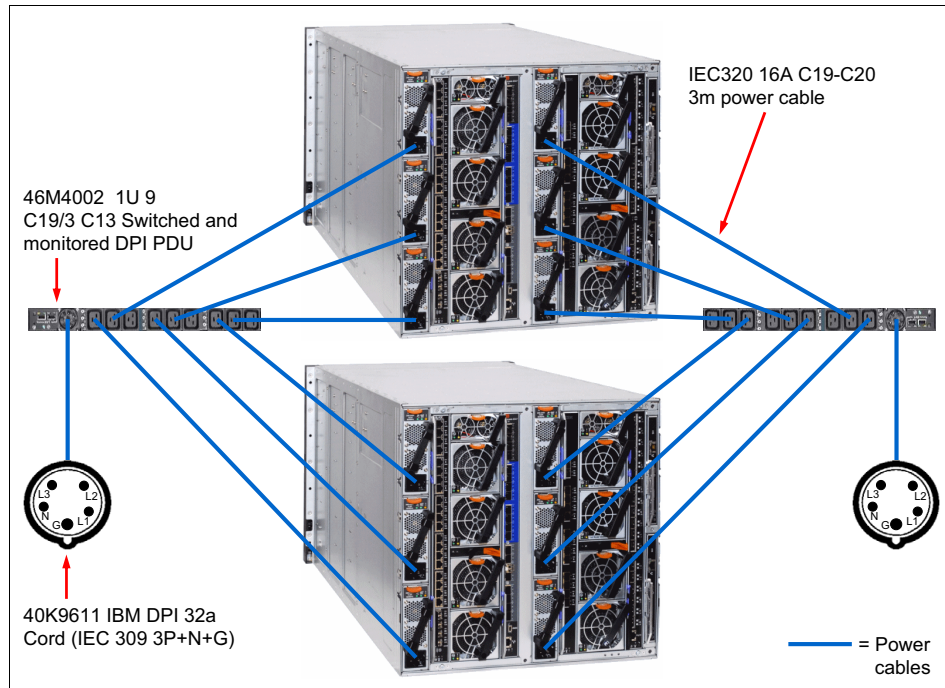

Figure 5-6 Example power cabling 32 A at 380 - 415 V three-phase: international
As shown in Figure 5-6, one three-phase 32 A wye PDU (WW) can provide power feeds for two chassis. In this case, an appropriate 3-phase power cable is selected for the Ultra-Dense Enterprise PDU+, which then splits the phases and supplies one phase to each of the three PSUs within each chassis. One three-phase 32 A wye PDU can power two fully populated chassis within a rack. A second PDU can be added for power redundancy from an alternative power source, if the chassis is configured N+N.
Figure 5-6 shows a typical configuration with a 32 A 3-phase wye supply at 380 - 415 VAC (often termed “WW” or “International”) N+N.